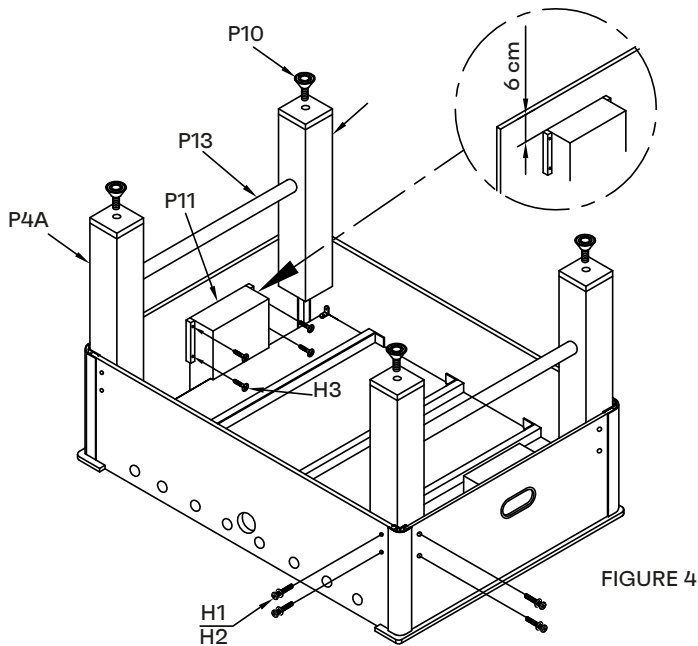

FIGURE 4
6. Insert cross bar P13 into legs as shown in figure 4. Attach the legs P4A and P4B as shown in figure 4. The legs are attached with bolts H1 and washers H2. *Tighten hardware at this time!
7. Attach the ball catcher P11 with screws H3. See figure 4.
8. Attach the leg levelers P10 as shown in figure 4.
7. Przymocuj bramkę P11 za pomocą wkrętów H3. Patrz rysunek 4.